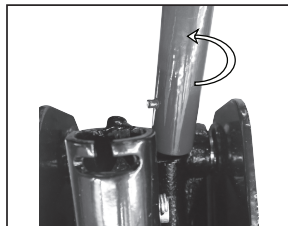

fig 5.
1. Use the handle assembly to twist the release valve 1-1/2 turns counter-clockwise (fig.5).
7. SLOWLY turn handle assembly counter-clockwise (fig.5) to ease vehicle down onto Jack stands.